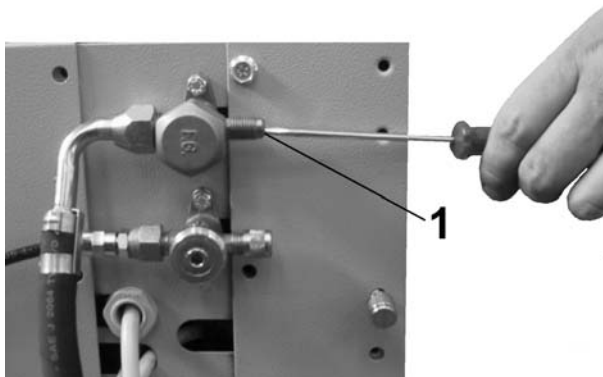

Fig. 29
**6.2.5** Push the needle **Fig. 29 Ref. 1** placed inside the bleed valve and let all the air out